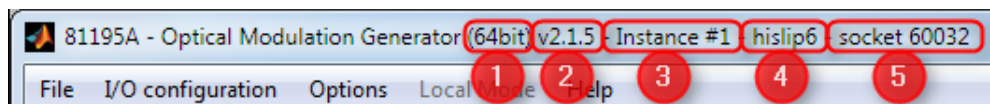

Figure 8 81195A Optical Modulation Generator title bar
Furthermore it indicates whether this instance of the 81195A OMG software is running in 32bit or 64bit mode (1), its revision number (2), its user-defined instance name (3), its auto-generated HiSLIP address (4) and its user-defined socket port number (5) (see figure Figure 8 on page 47)